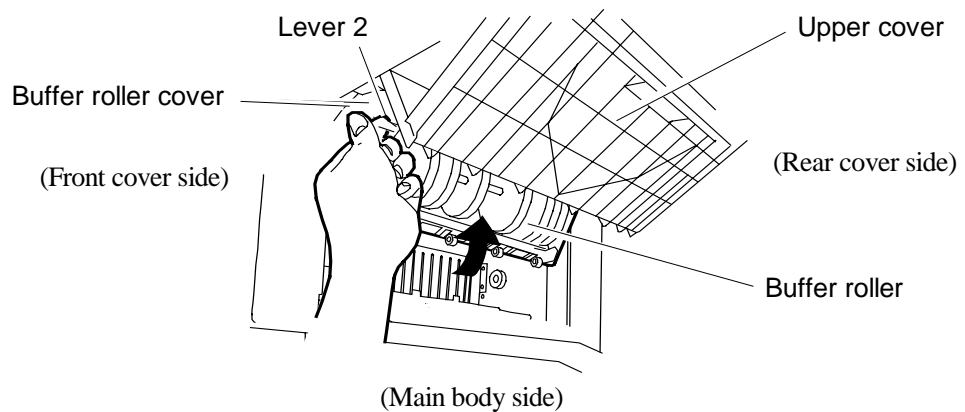

Fig. 5
- 6) Take lever 2, which is on the front cover side, between the fingers of the left hand, and lift up the buffer roller. Once it is lifted up, hold it in that position (Fig. 5).